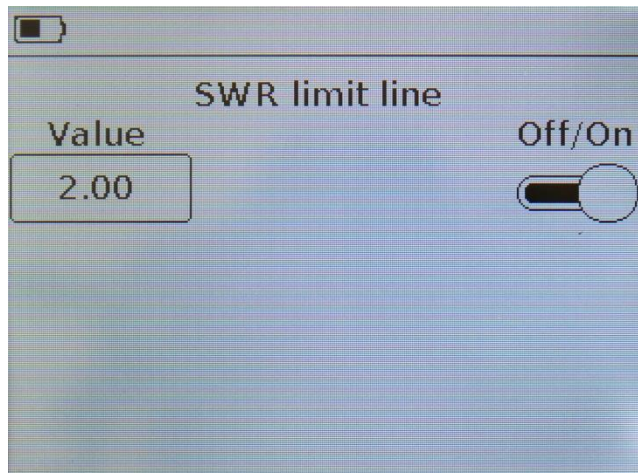

Figure 9.20 – Turning on the display of the VSWR limit line on the Smh, Pol charts and SWR plot
- Enter the **Plots** menu as indicated in section 9.3. and by clicking on the field with the designation of the chart **Smh**, **Pol** or **SWR** plot, go to the settings menu and display the VSWR limit line (Figure 9.20).
- In the **Smh**, **Pol** charts or **SWR** plot view mode, press and hold the button (14) “**PLOT**” for about two seconds and go to the setup menu and display the VSWR limit line (Figure 9.20).
9.8.3. Turning off and on the display of the VSWR limit line on the plots is performed by moving the slider to the **Off / On** position (Figure 9.20).